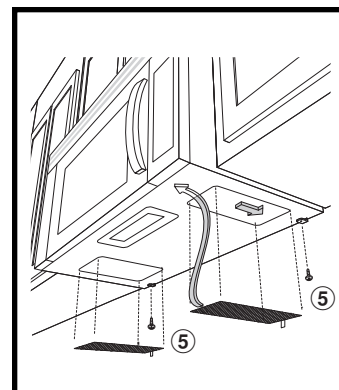

Figure 24
2. Use two Tapping Screws ⑤ to secure the levers that are on the bottom of the oven. See Figure 24.